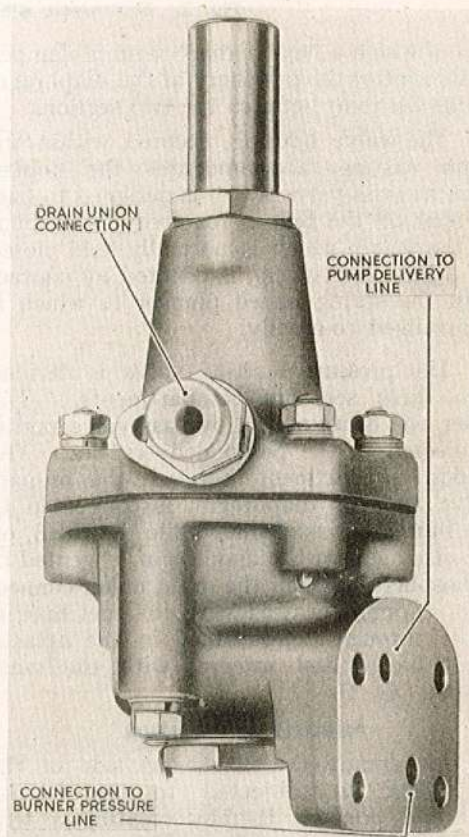

Fig. 1. The Hobson pressure limiting valve, Type Mk. 4/1
1. The Hobson pressure limiting valve (fig. 1) has been designed for use on the Goblin and Ghost aero-engines. This chapter deals with the Mk. 4/1 valves, as fitted to Goblin Mk. 2 aero-engines.
6. The pressure limiting valve is divided into three separate compartments. The inner one contains the by-pass valve and is connected to the pump delivery line. The second compartment, between the by-pass valve and the diaphragm, is connected to the burner pressure line, while the third, on the other side of the diaphragm, is vented to atmosphere through the drain union connection. Communication with the fuel lines is made through holes drilled in the attachment flange cast integral with the main casting (fig. 1).